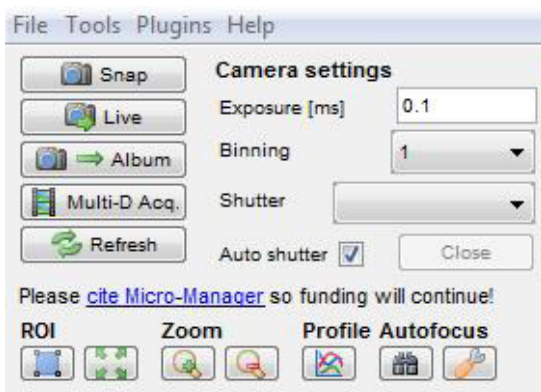

Fig. 19–Use these μ Manager settings when using the USB 3.0 camera.
2. Click on the  **Live** button to show your live image from the USB 3.0 camera. The Snap/Live window appears (Fig. 19).